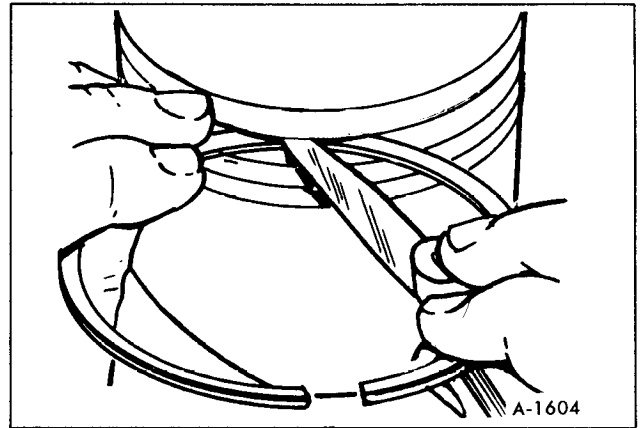

Figure 15-Checking Ring Side Clearance
a. Inspect the pistons for fractures at the ring lands, skirts and pin bosses. Check for wear at the ring lands using a new ring and feeler gauge as shown in Figure 15. Replace the piston when the side clearance of the top compression ring reaches 0.008".